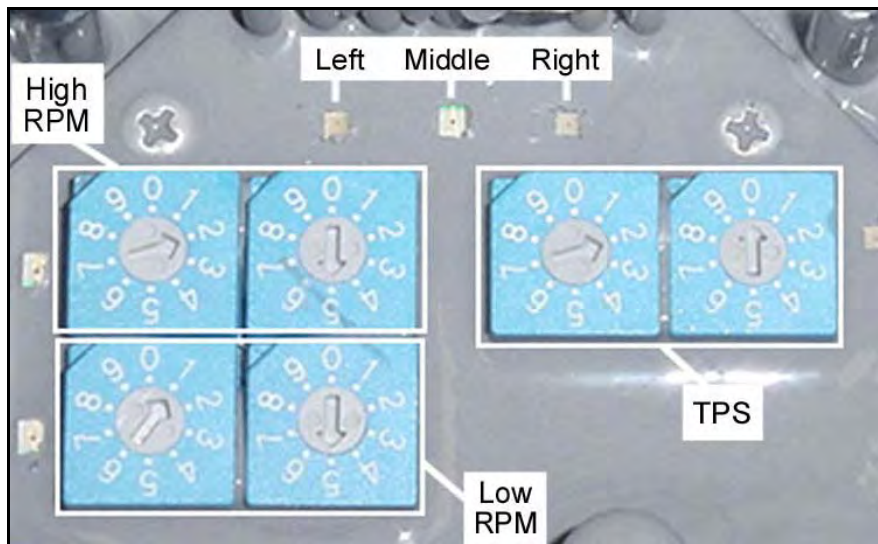

Figure 22
3. Set the lower left dial to 1 and lower right dial to 5. Set the upper left dial to 2 and the upper right dial to 5. This sets the RPM Window to turn nitrous on at 1500 RPM and off at 2500 RPM. Set the TPS left dial to 2 and the TPS right dial to 0. This sets the TPS to turn on at 2.0 volts or about 1/4 to 1/2 throttle. **See Figure 22.**